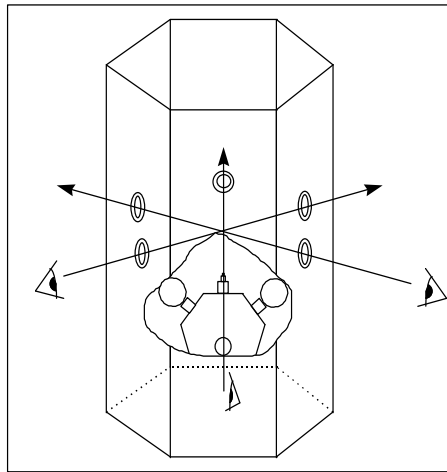

Figure 3-33
- c. Sight through the center of 3 adjacent lens sections (Figure 3-33) and check to see if the tip of the focus fixture is centered in the sighting marks (a white sheet of paper held behind the lens is helpful if the background is dark). Do not rotate the lens cage to line up sight marks; keep beacon stationary and move around it.